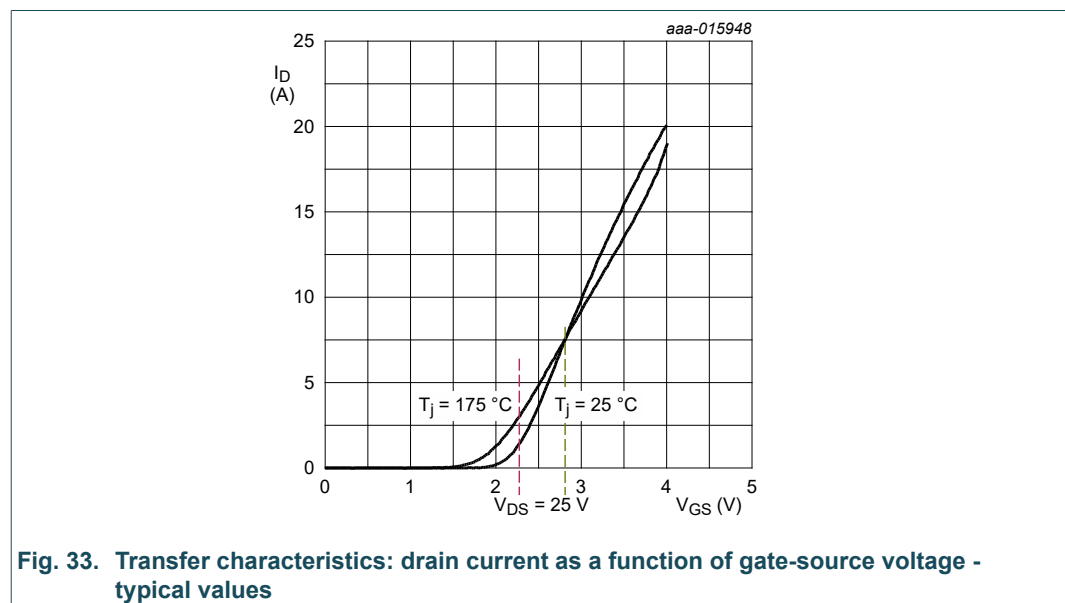

Fig. 33. Transfer characteristics: drain current as a function of gate-source voltage - typical values
1. The graph depicted in Fig. 33 is typical. The BUK9275-55A MOSFET has a distribution of parameter values within the production tolerance limits. The graph is only intended to illustrate how I_D , V_{DS} and V_{GS} are related when the MOSFET is operating for a particular V_{DS} condition. $V_{GS(th)}$ has a significant influence on the characteristic of a particular device. Temperature is also a major factor. The limiting values and characteristics listed in the data sheet should be used for circuit design.
2. Junction temperature T_j strongly affects the I_D / V_{GS} characteristic. The graph in Fig. 33 is for $T_j = 25\text{ }^{\circ}\text{C}$ and $T_j = 175\text{ }^{\circ}\text{C}$. The same graph for the same part with $T_j = -55\text{ }^{\circ}\text{C}$, would be very different. The mode of operation preferred by the customer is with V_{GS} in the range 2.2 V to 3 V in the saturation region before full enhancement. In this mode, the MOSFET power dissipation is likely to be significant. As a result, the junction temperature may be high. Figure 22 demonstrates how I_D changes with T_j for a given V_{GS} value.